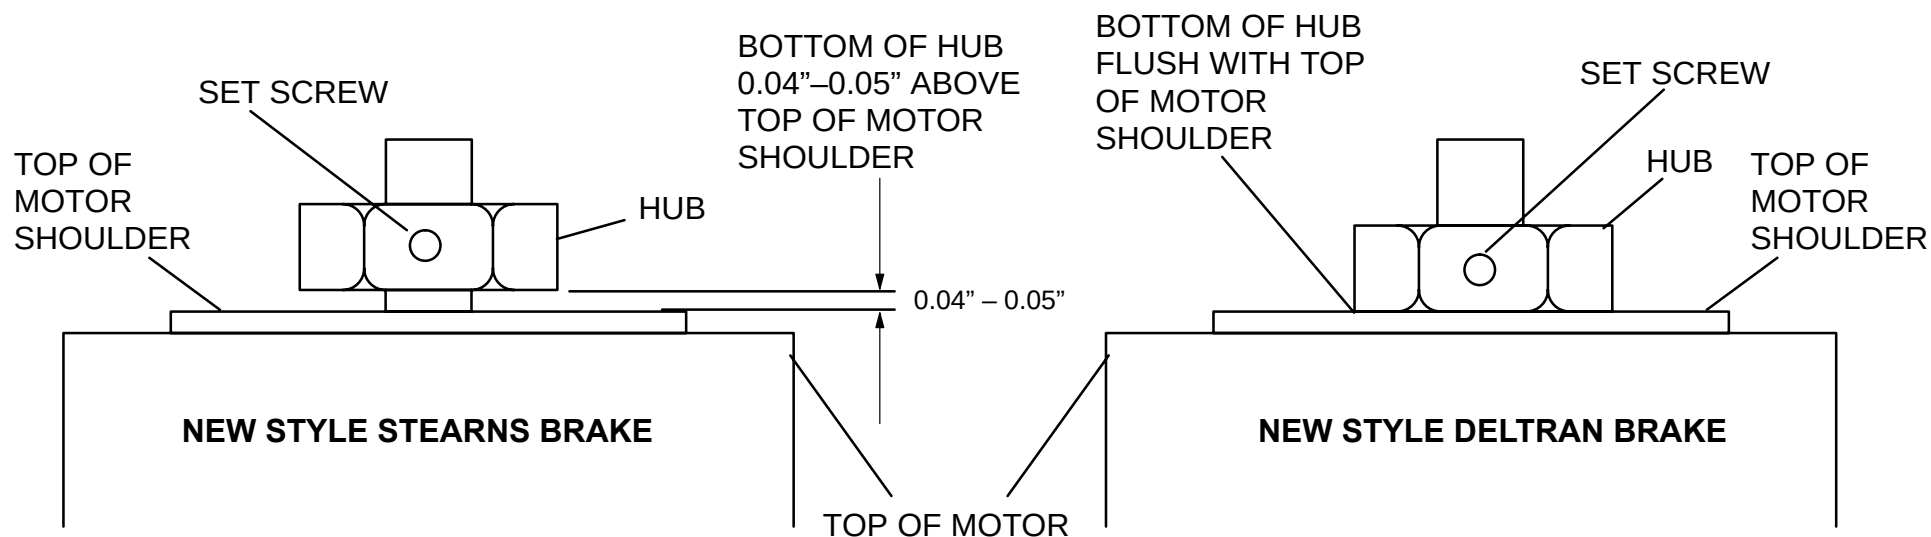

FIGURE 217 NEW STYLE STEARNS AND DELTRAN HUB LOCATION
21. Ensure the keystick is in place. Install the new brake hub onto the motor shaft by locating the bottom of the hub 40 to 50 thousandths above the shoulder of the motor, tighten set screws. See Figure 217.
24. Ensure the keystock is in place. Install the new brake hub onto the motor shaft by locating the bottom of the hub flush with the shoulder of the motor, tighten set screws. Refer to Figure 217.